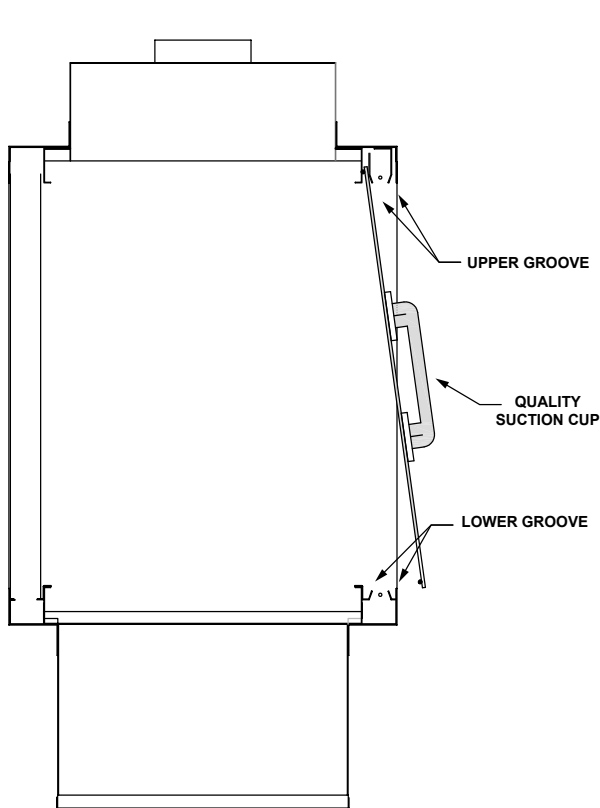

Figure 6A
Refer to Glass Frame Assembly Identification Figures 6A & 6B.1 when installing and removing the glass frame assembly.
3. Lift the glass into place. The top edge slips into the top groove, lift into the groove until the bottom is clear of the bottom trim. Slide the glass down into the inner bottom groove. See Figure 6A.